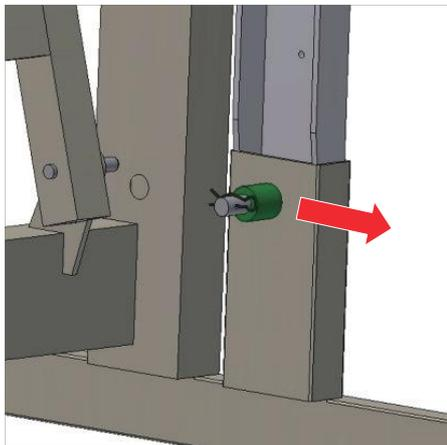

Figure 1: Removal of R-clips
3. Remove the R-clips, the plastic spacer and then the pins from the foot section of the bed (*Figure 1*); retain pins, spacer and clips for later use.